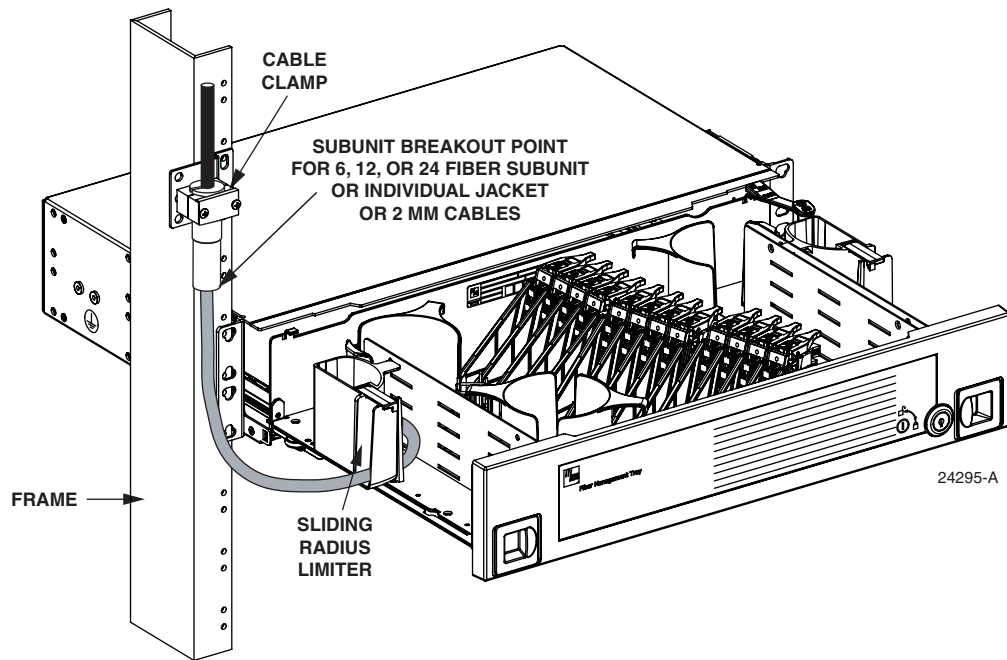
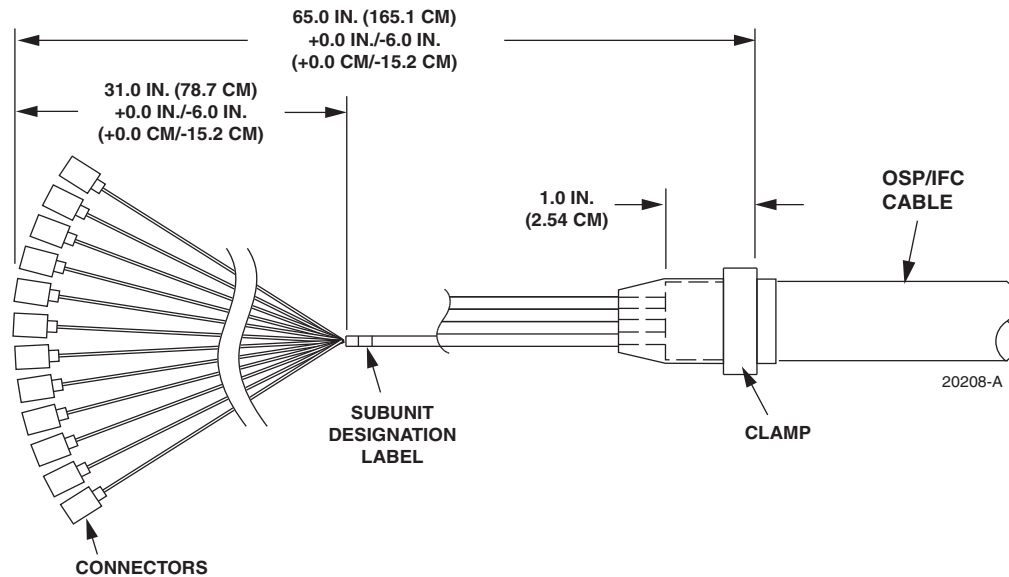

Figure 11. Cable Clamping Point
Figure 12. Cable Assembly Breakout Detail
Incoming IFC or OSP must be secured with a cable clamp to the frame before entering the FMT, as shown in Figure 11. FMTs may be ordered without IFC or OSP cables installed at the factory. Refer to Figure 12 for appropriate cable length.
2. Route the cable along the rack to the 2RU FMT, as shown in Figure 11 on page 14.